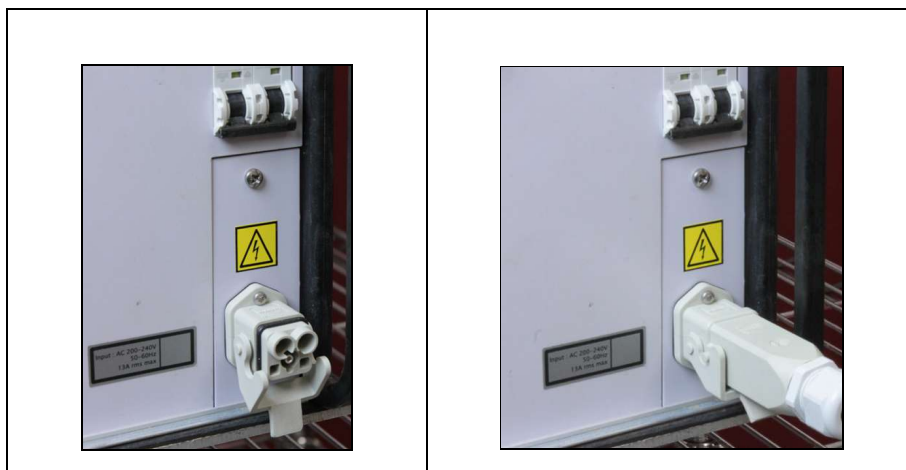

Figure 4.2.6: Harting Han® Q2/0 connector – connection to the laser
10. Ensure the cable assembly is isolated or disconnected from the mains supply; connect the cable assembly to the laser and ensure the locking clip is closed (refer to figure 4.2.6).